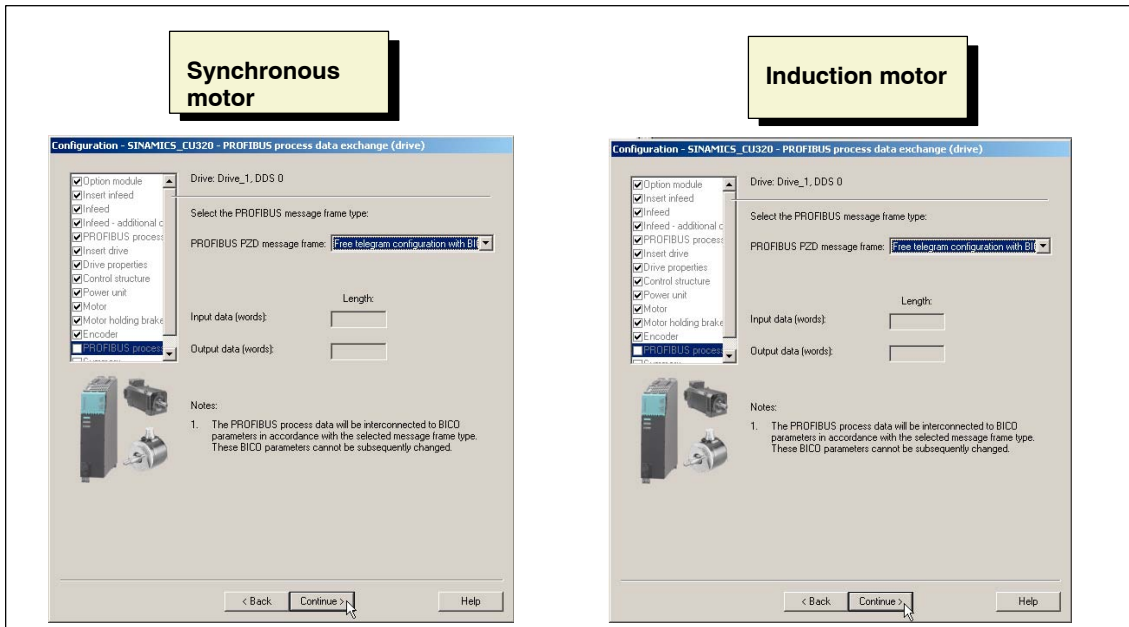

Fig. 3-29 Control mode/setpoints
23. Click **Continue >** to choose the control mode/setpoints (see Fig. 3-29).